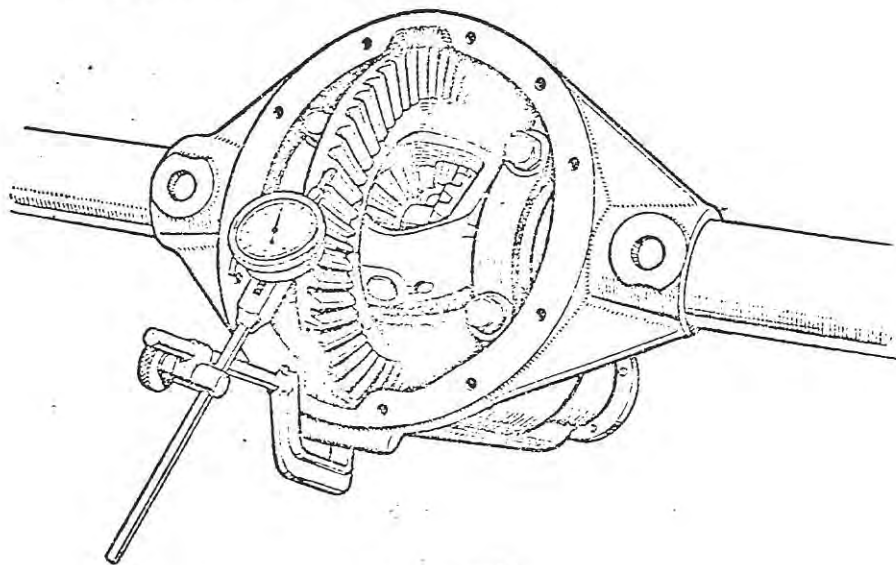

FIGURE 11
- (11) Remount the dial indicator on the gear carrier housing with the button against one of the drive gear teeth, as nearly in line with the direction of tooth travel as possible, see Figure 11. Move the drive gear to check the backlash which should be as etched on the gear. If the backlash is not in accordance with the specification, transfer the necessary shims from one side of the differential case to the other to obtain the desired setting. To increase backlash, remove shims from the drive gear side and install on the opposite side. Backlash is decreased by transferring shims to the drive gear side from the opposite side of the differential case.
- (12) After setting the backlash to the required figure, use a small brush to paint eight or ten of the drive gear teeth with a stiff mixture of marking raddle, used sparingly, or engineer's blue may be used if preferred. Move the painted gear teeth into mesh with the pinion until a good impression of the tooth contact is obtained. The resulting impression should be similar to figure A in Table 7. Refer to the section on Tooth Contact and to Table 7 for instructions on correction of tooth contact if the impression obtained is not satisfactory.